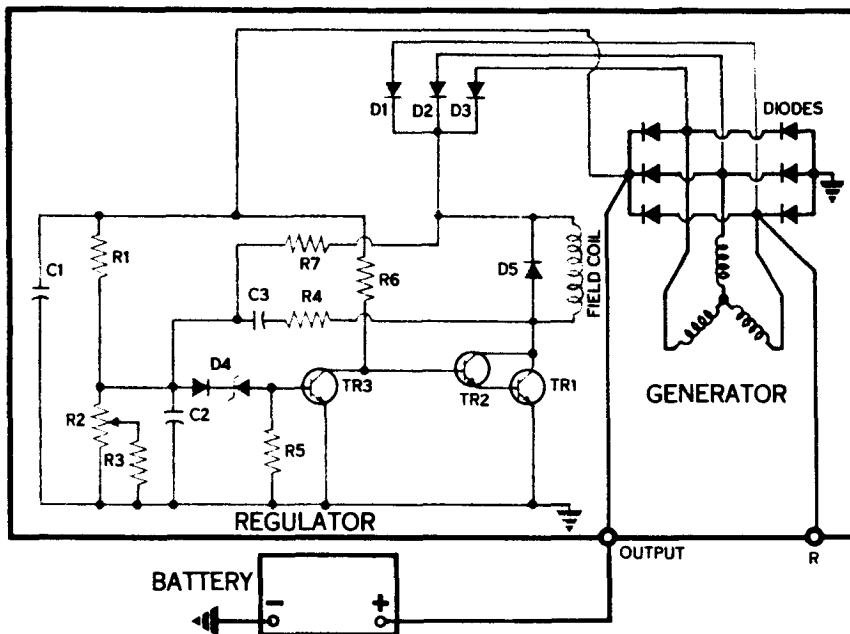

Figure 5—Negative ground circuit. Regulator shown in Figures 16 and 17
(Type shown in Figures 5 and 6.)
8. Type Regulator Shown in Figures 5, 6 and 16.